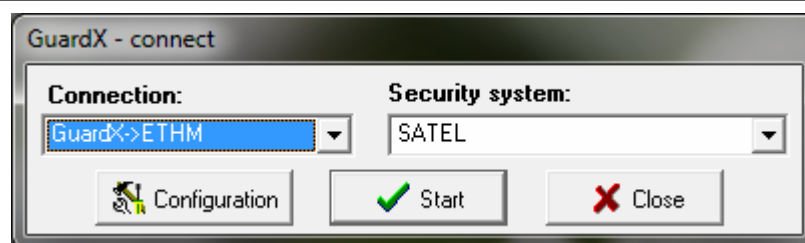
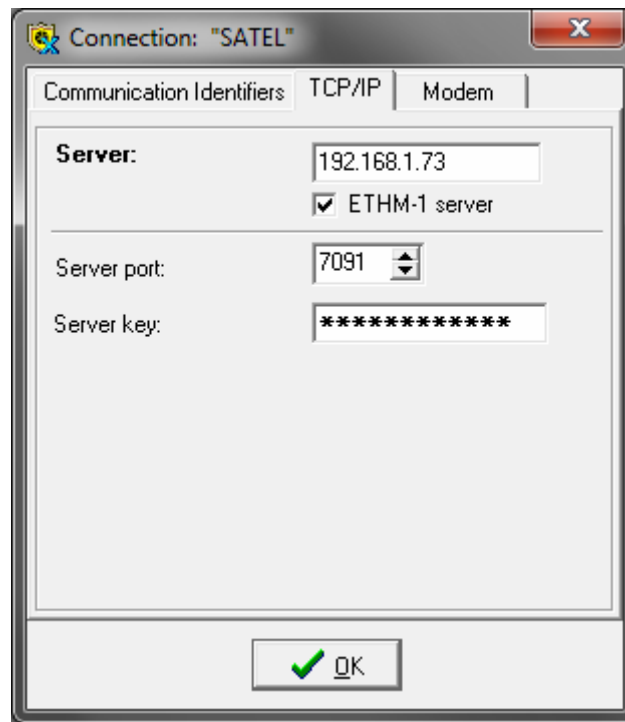

Fig. 9. GUARDX program: startup window.
Fig. 10. GUARDX program: settings for communication via Ethernet (TCP/IP) network.
In the GUARDX program startup window (see Fig. 9), click on the "Configuration" button. A window will open, in which, in the "TCP/IP" tab (see Fig. 10), you can program the following:
1. In the startup window, "Connection" field, select "GuardX -> ETHM" (see Fig. 9), and then click on the "Start" button.